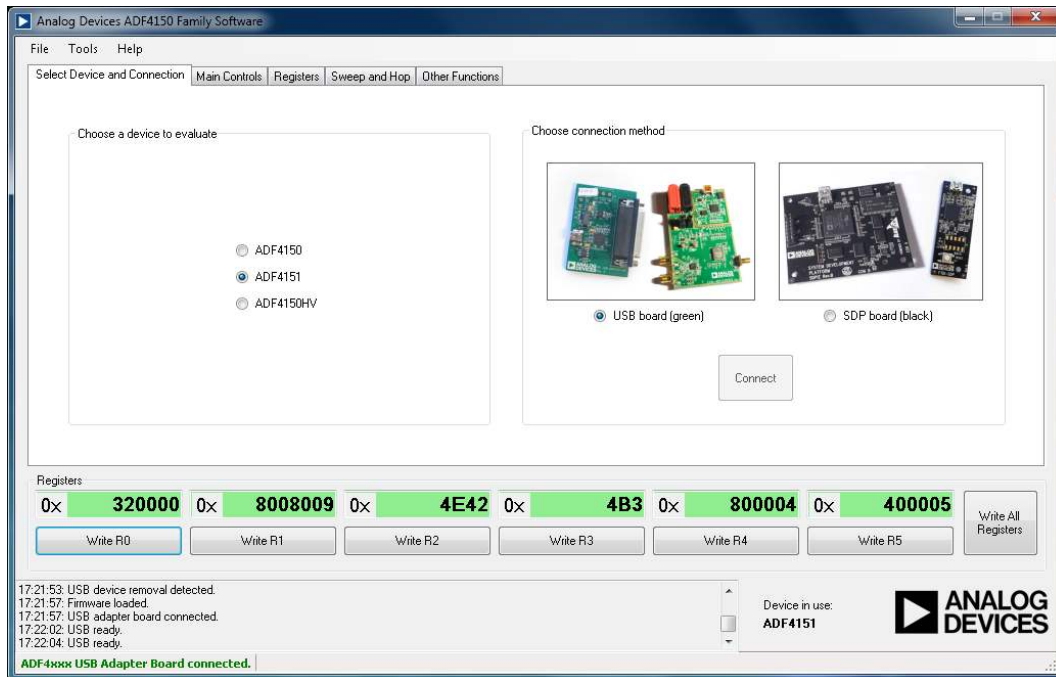

Figure 3. Software Front Panel Display—Select Device and Connection
2. On the **Select Device and Connection** tab, choose **ADF4151** and **USB board (green)**, and then click **Connect** (see Figure 3).
3. Confirm that **ADF4xxx USB Adapter Board connected** is displayed at the bottom left of the window (see Figure 3). Otherwise, the software has no connection to the evaluation board. Note that when connecting the board, it takes about 5 sec to 10 sec for the status label to change.